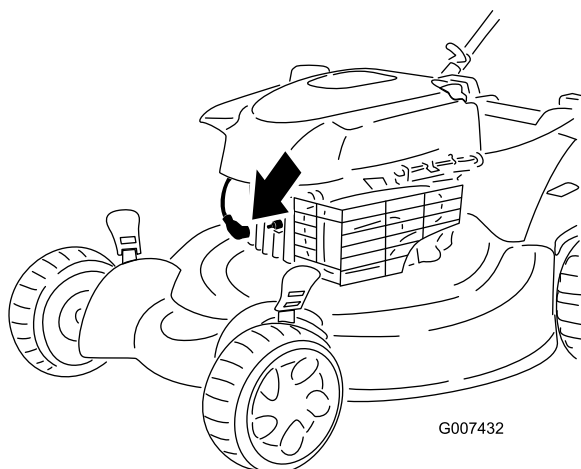

Figure 39
2. Disconnect the spark-plug wire from the spark plug (Figure 39) before performing any maintenance procedure.